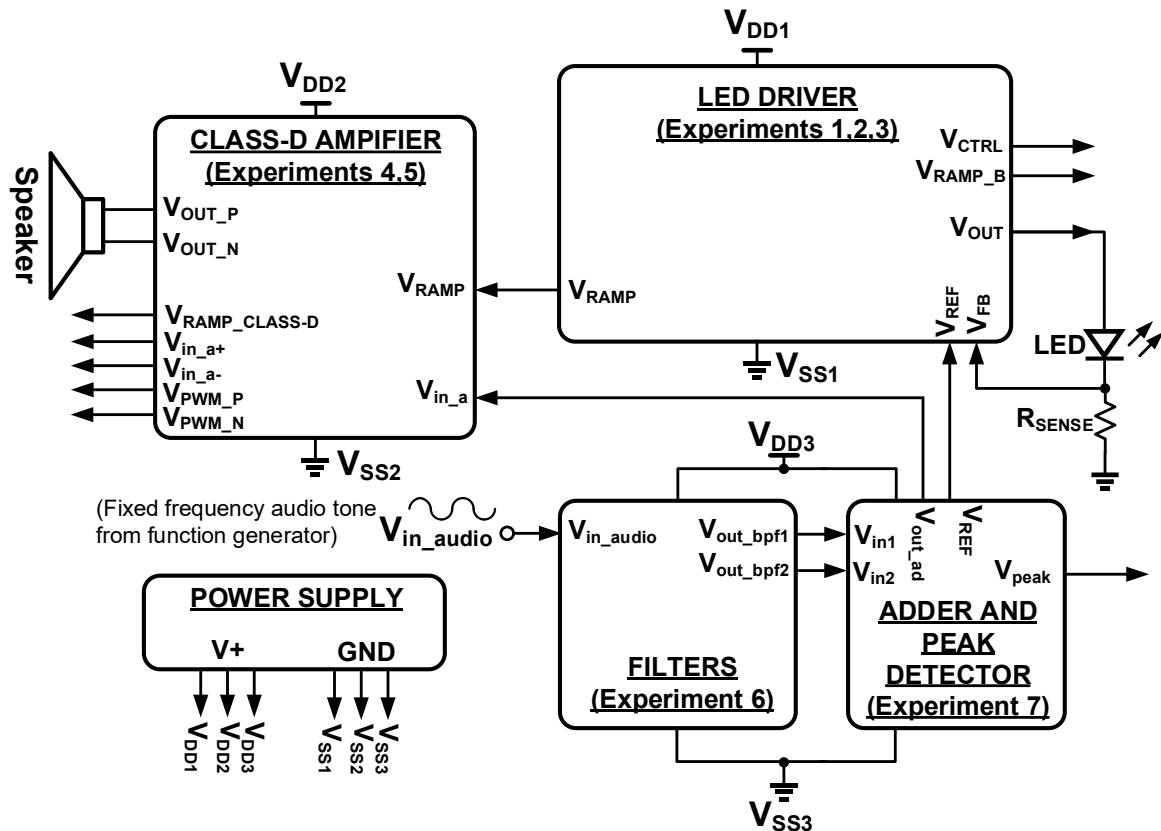

Figure 5-1 Block diagram of the complete system after integration
Top level integration combines all the four modules (LED Driver, Class-D Amplifier, Filters and Adder+Peak Detector) designed during experiments 1-7) to build the complete system. Figure 5-1 shows the block diagram of the complete system after integrating all the modules.
3. Label all the signals shown in the block diagram of Figure 5-1 using a small piece of paper and tape. Wires connecting to these labelled signals should be brought to for measurement. Rest of the signals can left inside the board.
3. Probe signals listed in Figure 5-1.